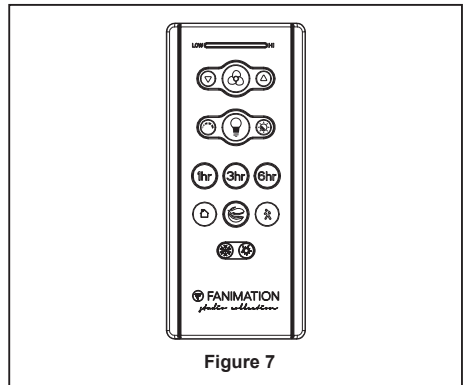

Figure 7
- 7.** Secure the glass to light kit by twisting in a clockwise direction. Twist the glass gradually **until it snaps onto the light kit**. Do not over-tighten. (Figure 7)
7. Remote functions: (Figure 7)